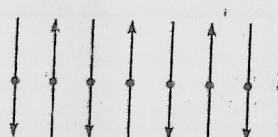

Fig. 19.6 Anti-ferromagnetic materials—dipole arrangements
- (1) The dipoles are aligned anti-parallel as shown in Fig. 19.6.